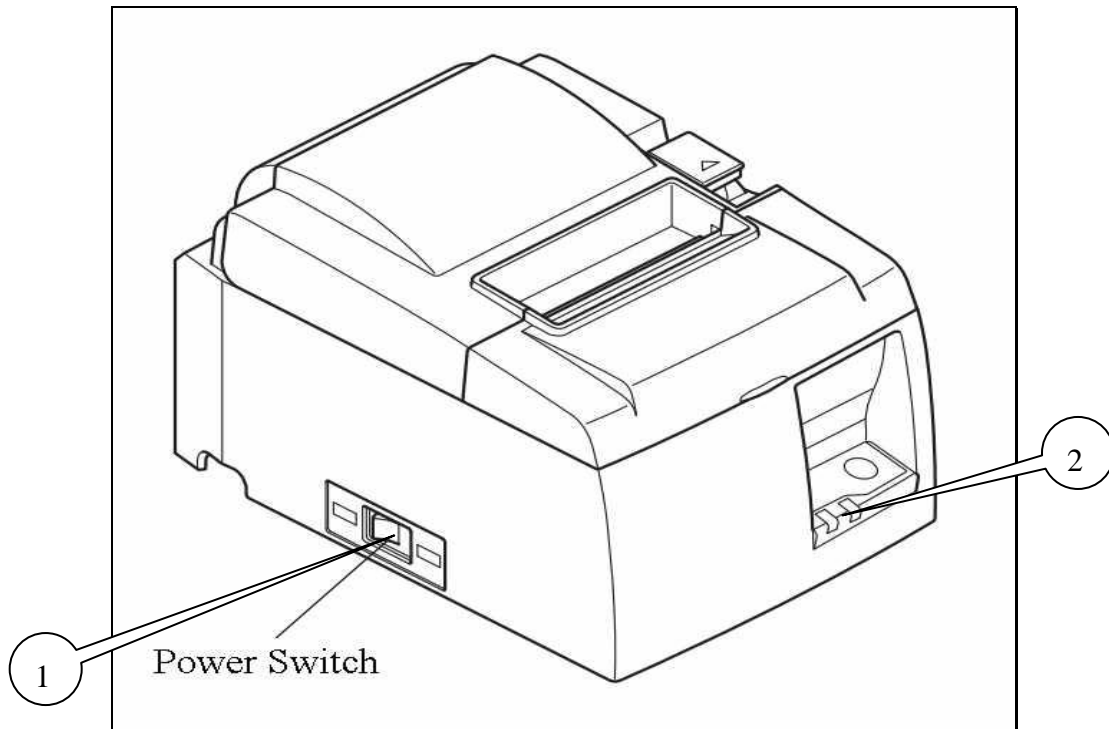

Fig. 2-2
2.1.4. Make sure receipt printer is switched on (Located at No. 1 in Fig. 2-2) with power status light on (Located at No. 2 in Fig. 2-1).